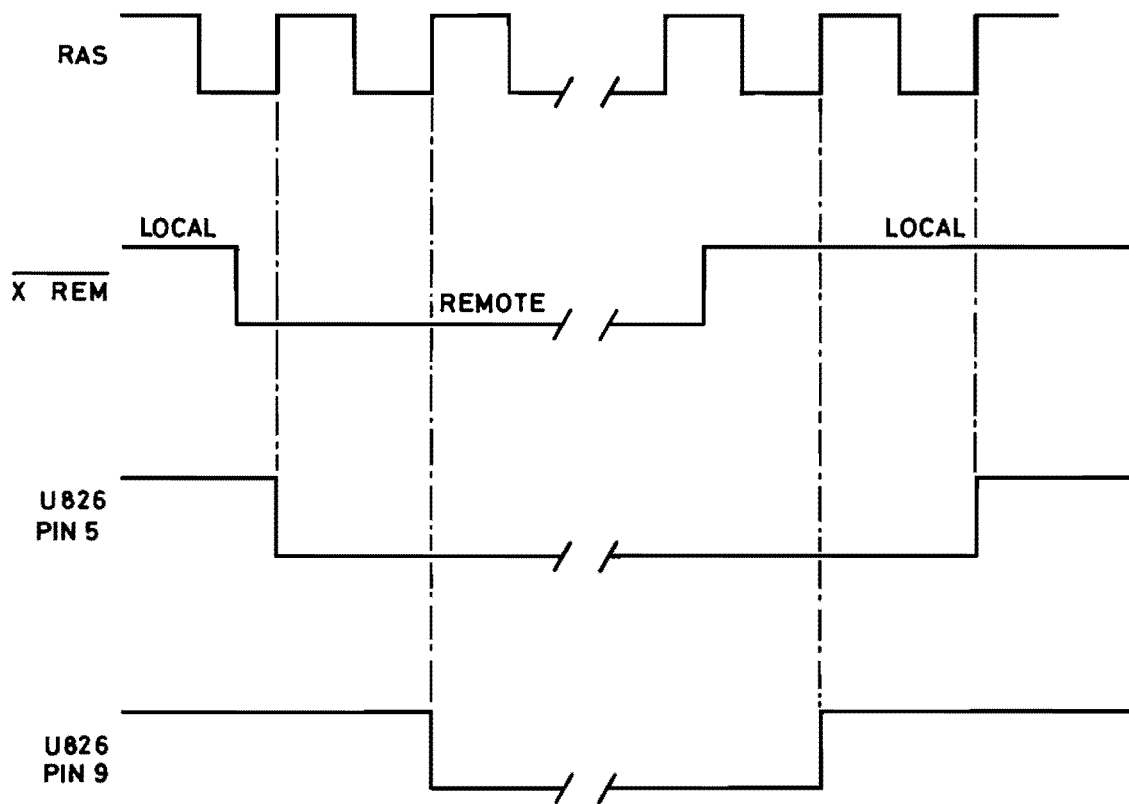

Fig. 4.27 Remote/Local Signals
**4.11.16 DATA I/O -- WRITE (Fig. 5.19, see also Fig. 4.27)**